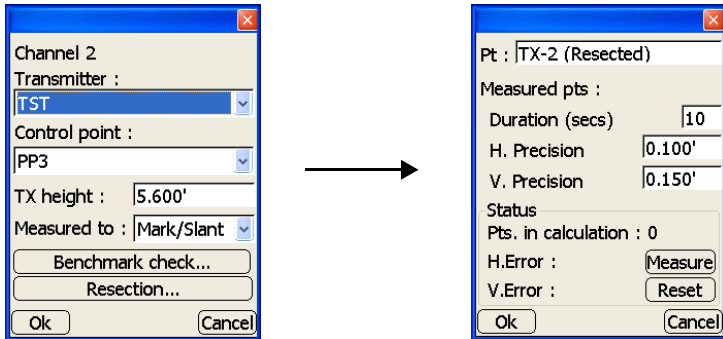

Figure 7-16. Begin Resection
6. Tap the **Resection** button on the *channel setup* dialog box (Figure 7-16 on page 7-21).
7. If desired, enter the following measurement parameters on the *resection* dialog box (Figure 7-16 on page 7-21).